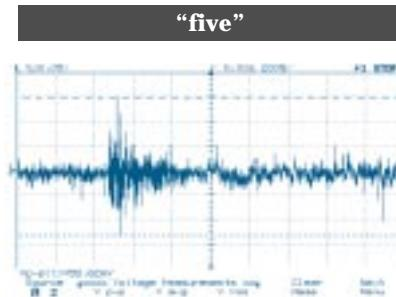
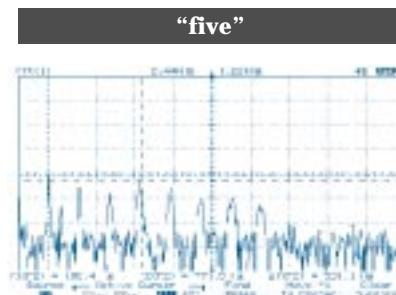

Figure 1: Time Signals
Figure 2: Spectrum
**H**uman speech is a complex mixture of frequencies between 100 Hz and 20 kHz. The challenge of speaker-independent continuous-speech recognition lies in being able to parse words from strings of sound and match them to stored templates1. Speech signals are far too complex to compare in the time domain, as Figure 1 illustrates. For one thing, each time a word is spoken, it takes a different amount of time. For another, it is difficult to reproduce the word at exactly the same volume each time. Also, the unique characteristics of each person's vocal tract means the way words are produced and joined is different for each individual.
spectral spikes. Normally, to observe signal spectra, it would be necessary to record the signal, then process it afterwards using a software package and finally present the results graphically. The process is much simplified through the use of the 54645A General Purpose DSO with the 54659B RS232/Parallel Measurement/Storage module. It provides built-in FFT capability, which means that spectra may be viewed conveniently in real time. 34810B BenchLink Scope software allows the spectra to be inserted into documents with ease. Figure 2 shows the spectrum of the first instance of "five" from Figure 1. It is evident from the spectrum that the word "five" contains frequencies between 190.4 Hz and 1.521 kHz, with particularly strong contributions at 190.4 Hz and 771.5 Hz.